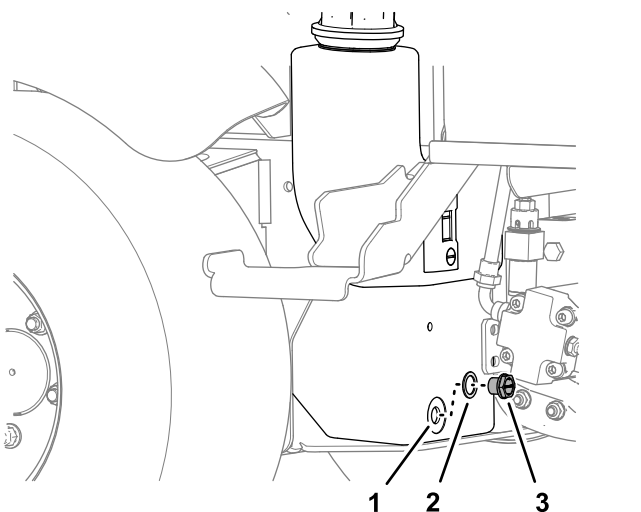

Figure 72
3. Align a drain pan under the hydraulic tank, remove the tank drain plug, and fully drain the hydraulic fluid (Figure 72).